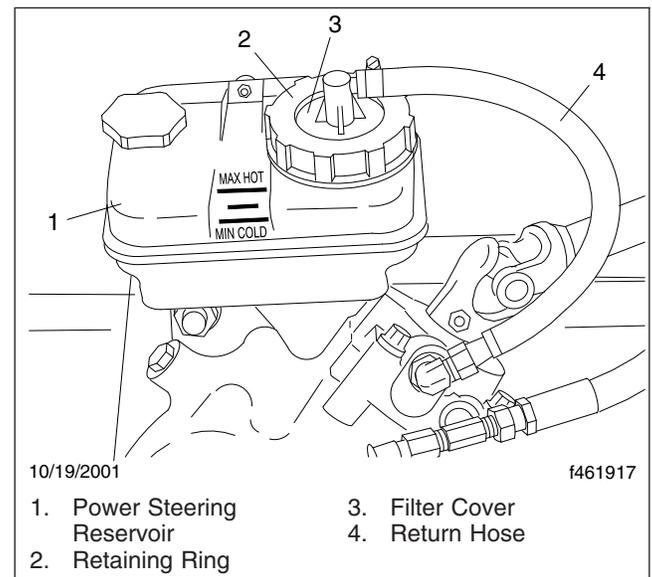

Fig. 1, Power Steering Reservoir
3. Remove the retaining ring from the reservoir. See Fig. 1.
- Fill the reservoir with an approved power steering fluid to the line between the MIN COLD and MAX HOT lines. See **Fig. 1**. See **Table 1** for approved power steering fluids.